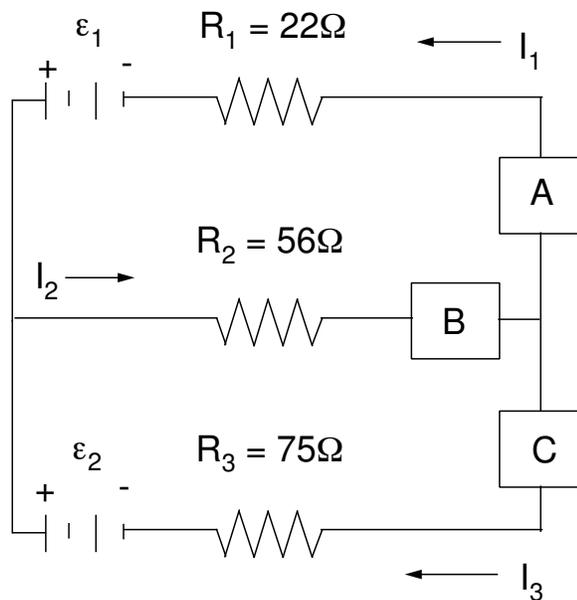

Figure 10.5: Circuit diagram for verifying Kirchoff's rules.
1. Connect the resistors and the power supplies into a two-loop circuit as shown in Fig. 10.5. The boxes marked A, B, and C in the circuit diagram will be replaced eventually with the multimeter (set to measure current) when we measure currents in the circuit.